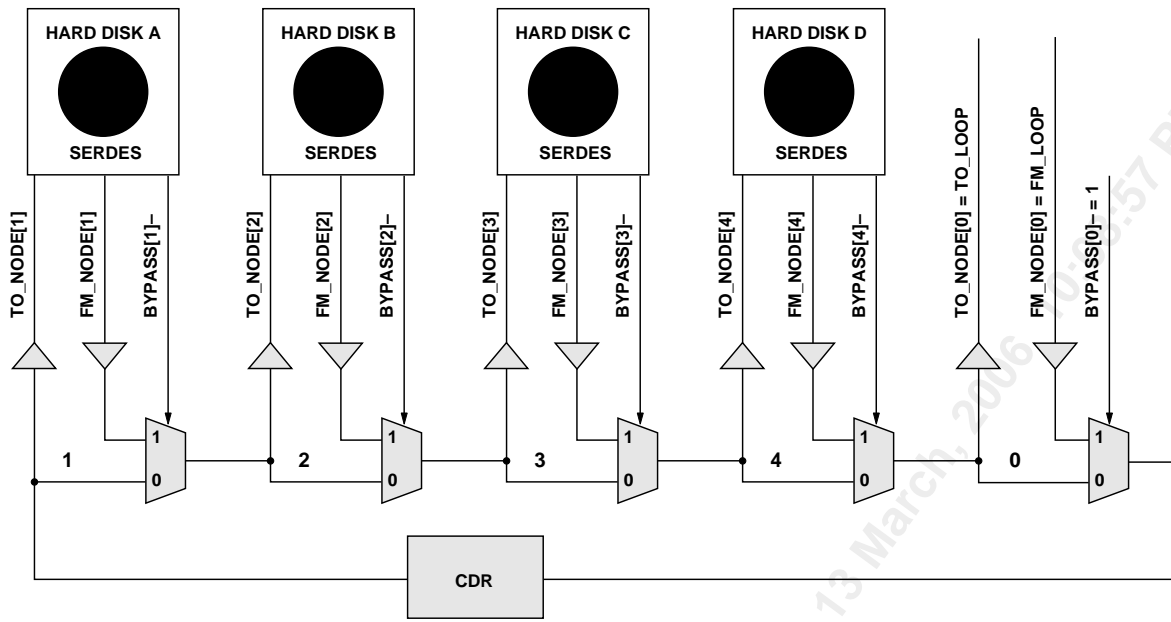
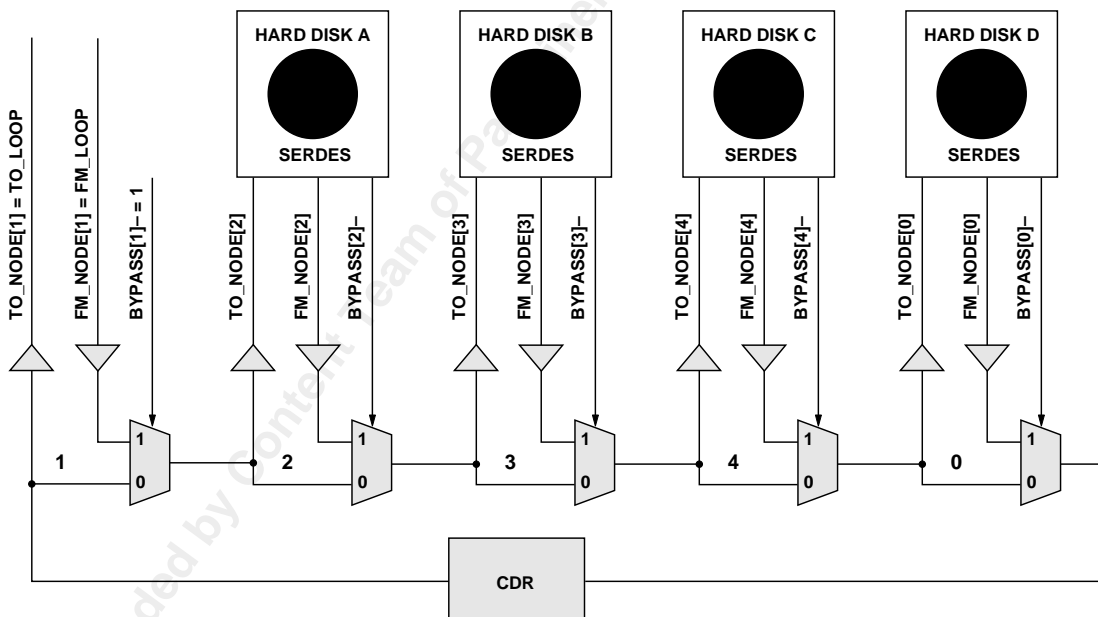

Figure 3. Connection diagram for CDR at first cell.
Figure 4. Connection diagram for CDR at last cell.
The HDMP-0452 design allows for CDR placement at any location with respect to the hard disk slots. For example, if the BY-PASS[0]- pin is floating and hard disk slots A to D are connected to PBC cells 1 to 4 respectively (see Figure 3), the CDR function will be performed before entering the hard disk at slot A. To obtain a CDR function after slot D (see Figure 4), BYPASS[1]- must be floating and hard disk slots A to D must be connected to PBC cells 2,3,4, and 0 respectively. Table 2 shows all possible connections. For configurations where the CDR is before slot A, a Signal Detect (SD) pin shows the status of the signal at the incoming cable.
Table 2. Pin Connection Diagram to Achieve Desired CDR Location (see Figures 3, 4).